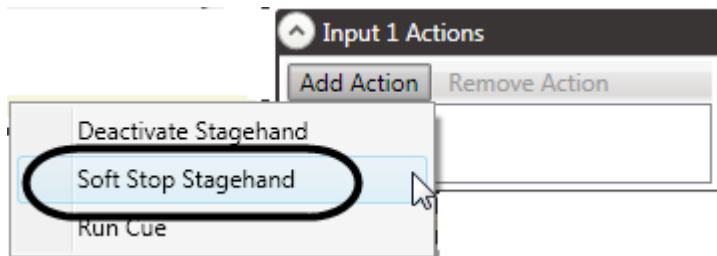

Figure 190
3. Select **Soft Stop Stagehand** as the action type (Figure 190)